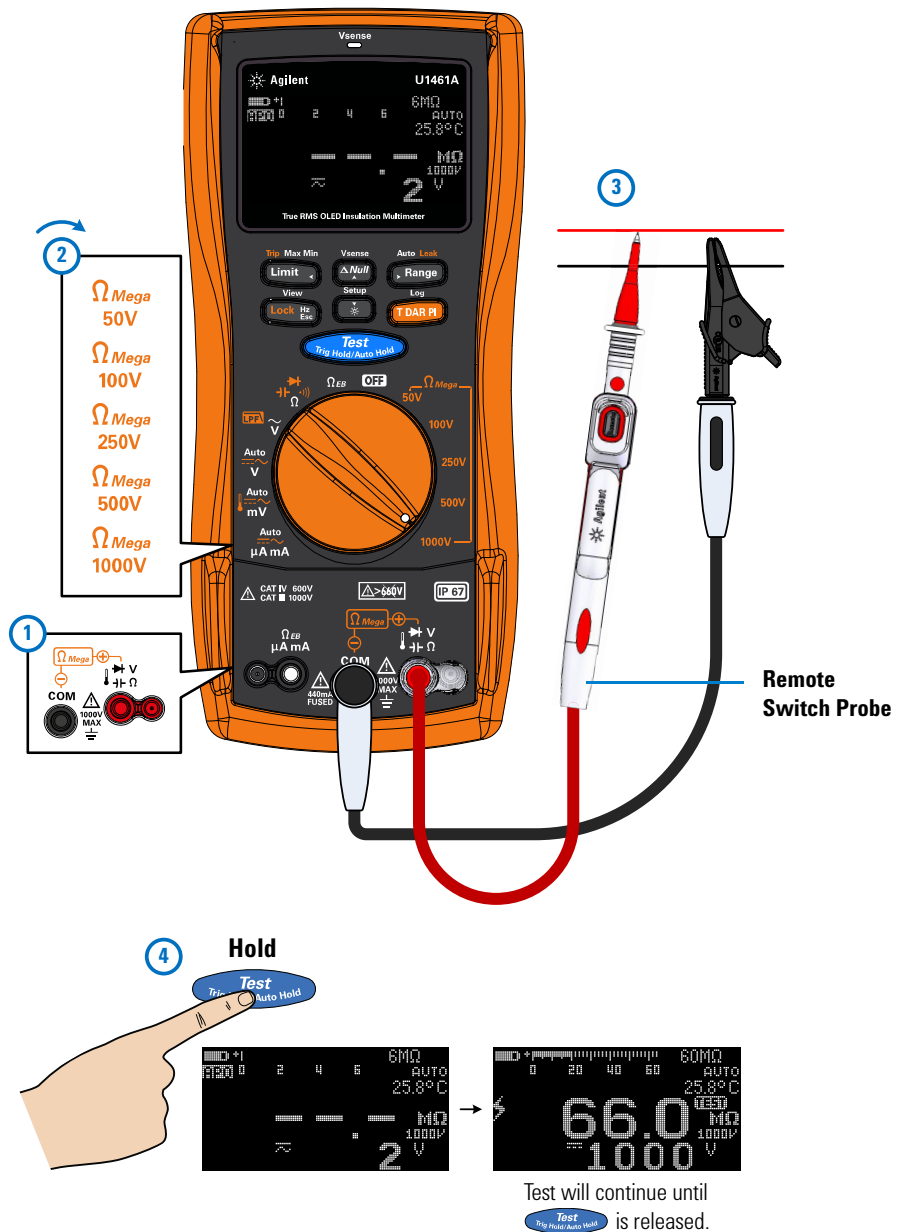
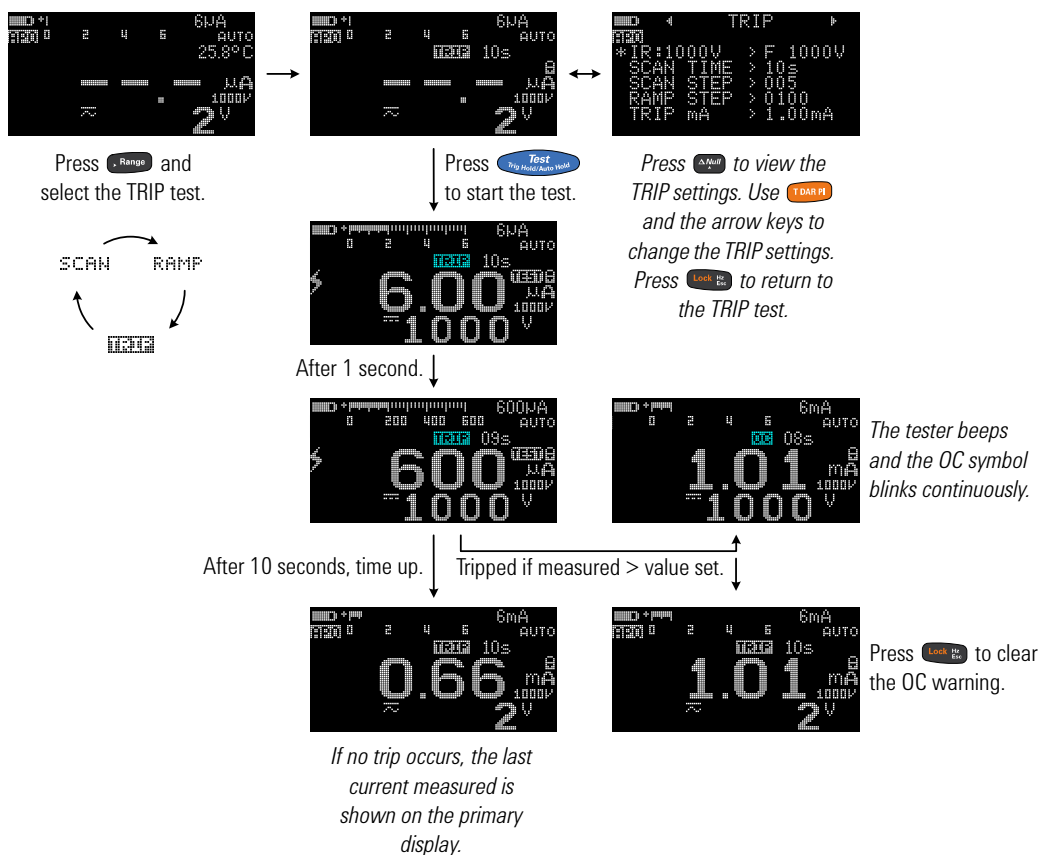

Figure 2-1 Insulation resistance test example
Figure 2-5 TRIP operation
Set up your tester as shown in **Figure 2-1**. Set the rotary switch to a test voltage value that does not exceed the maximum voltage limitation of the circuit under test. Ensure that the device-under-test (DUT) is de-energized before performing any resistance measurement.
Use the timed test to obtain measurement results with consistent test times – for later comparisons. Set up your tester as shown in **Figure 2-1**, and follow the steps shown below.
Dielectric Absorption Ratio (DAR) is the ratio of the insulation resistance tested at 60 seconds to the insulation resistance tested at 30 seconds. Set up your tester as shown in **Figure 2-1**, and follow the steps shown below.
Polarization Index (PI) is the ratio of the insulation resistance tested at 10 minutes to the insulation resistance tested at 1 minute. Set up your tester as shown in **Figure 2-1**, and follow the steps shown below.
Set up your tester as shown in Figure 2-1, and follow the steps shown in Figure 2-5.